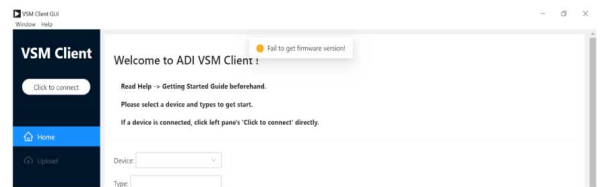

Figure 26. Failed to Get Firmware Version Error
- ▶ **Fail to get firmware version!** If this pop-up appears (see Figure 26), the firmware version may not match the software version. Update the firmware in the kit. For details on updating the firmware, see the EVAL-ADPD6000Z product page.